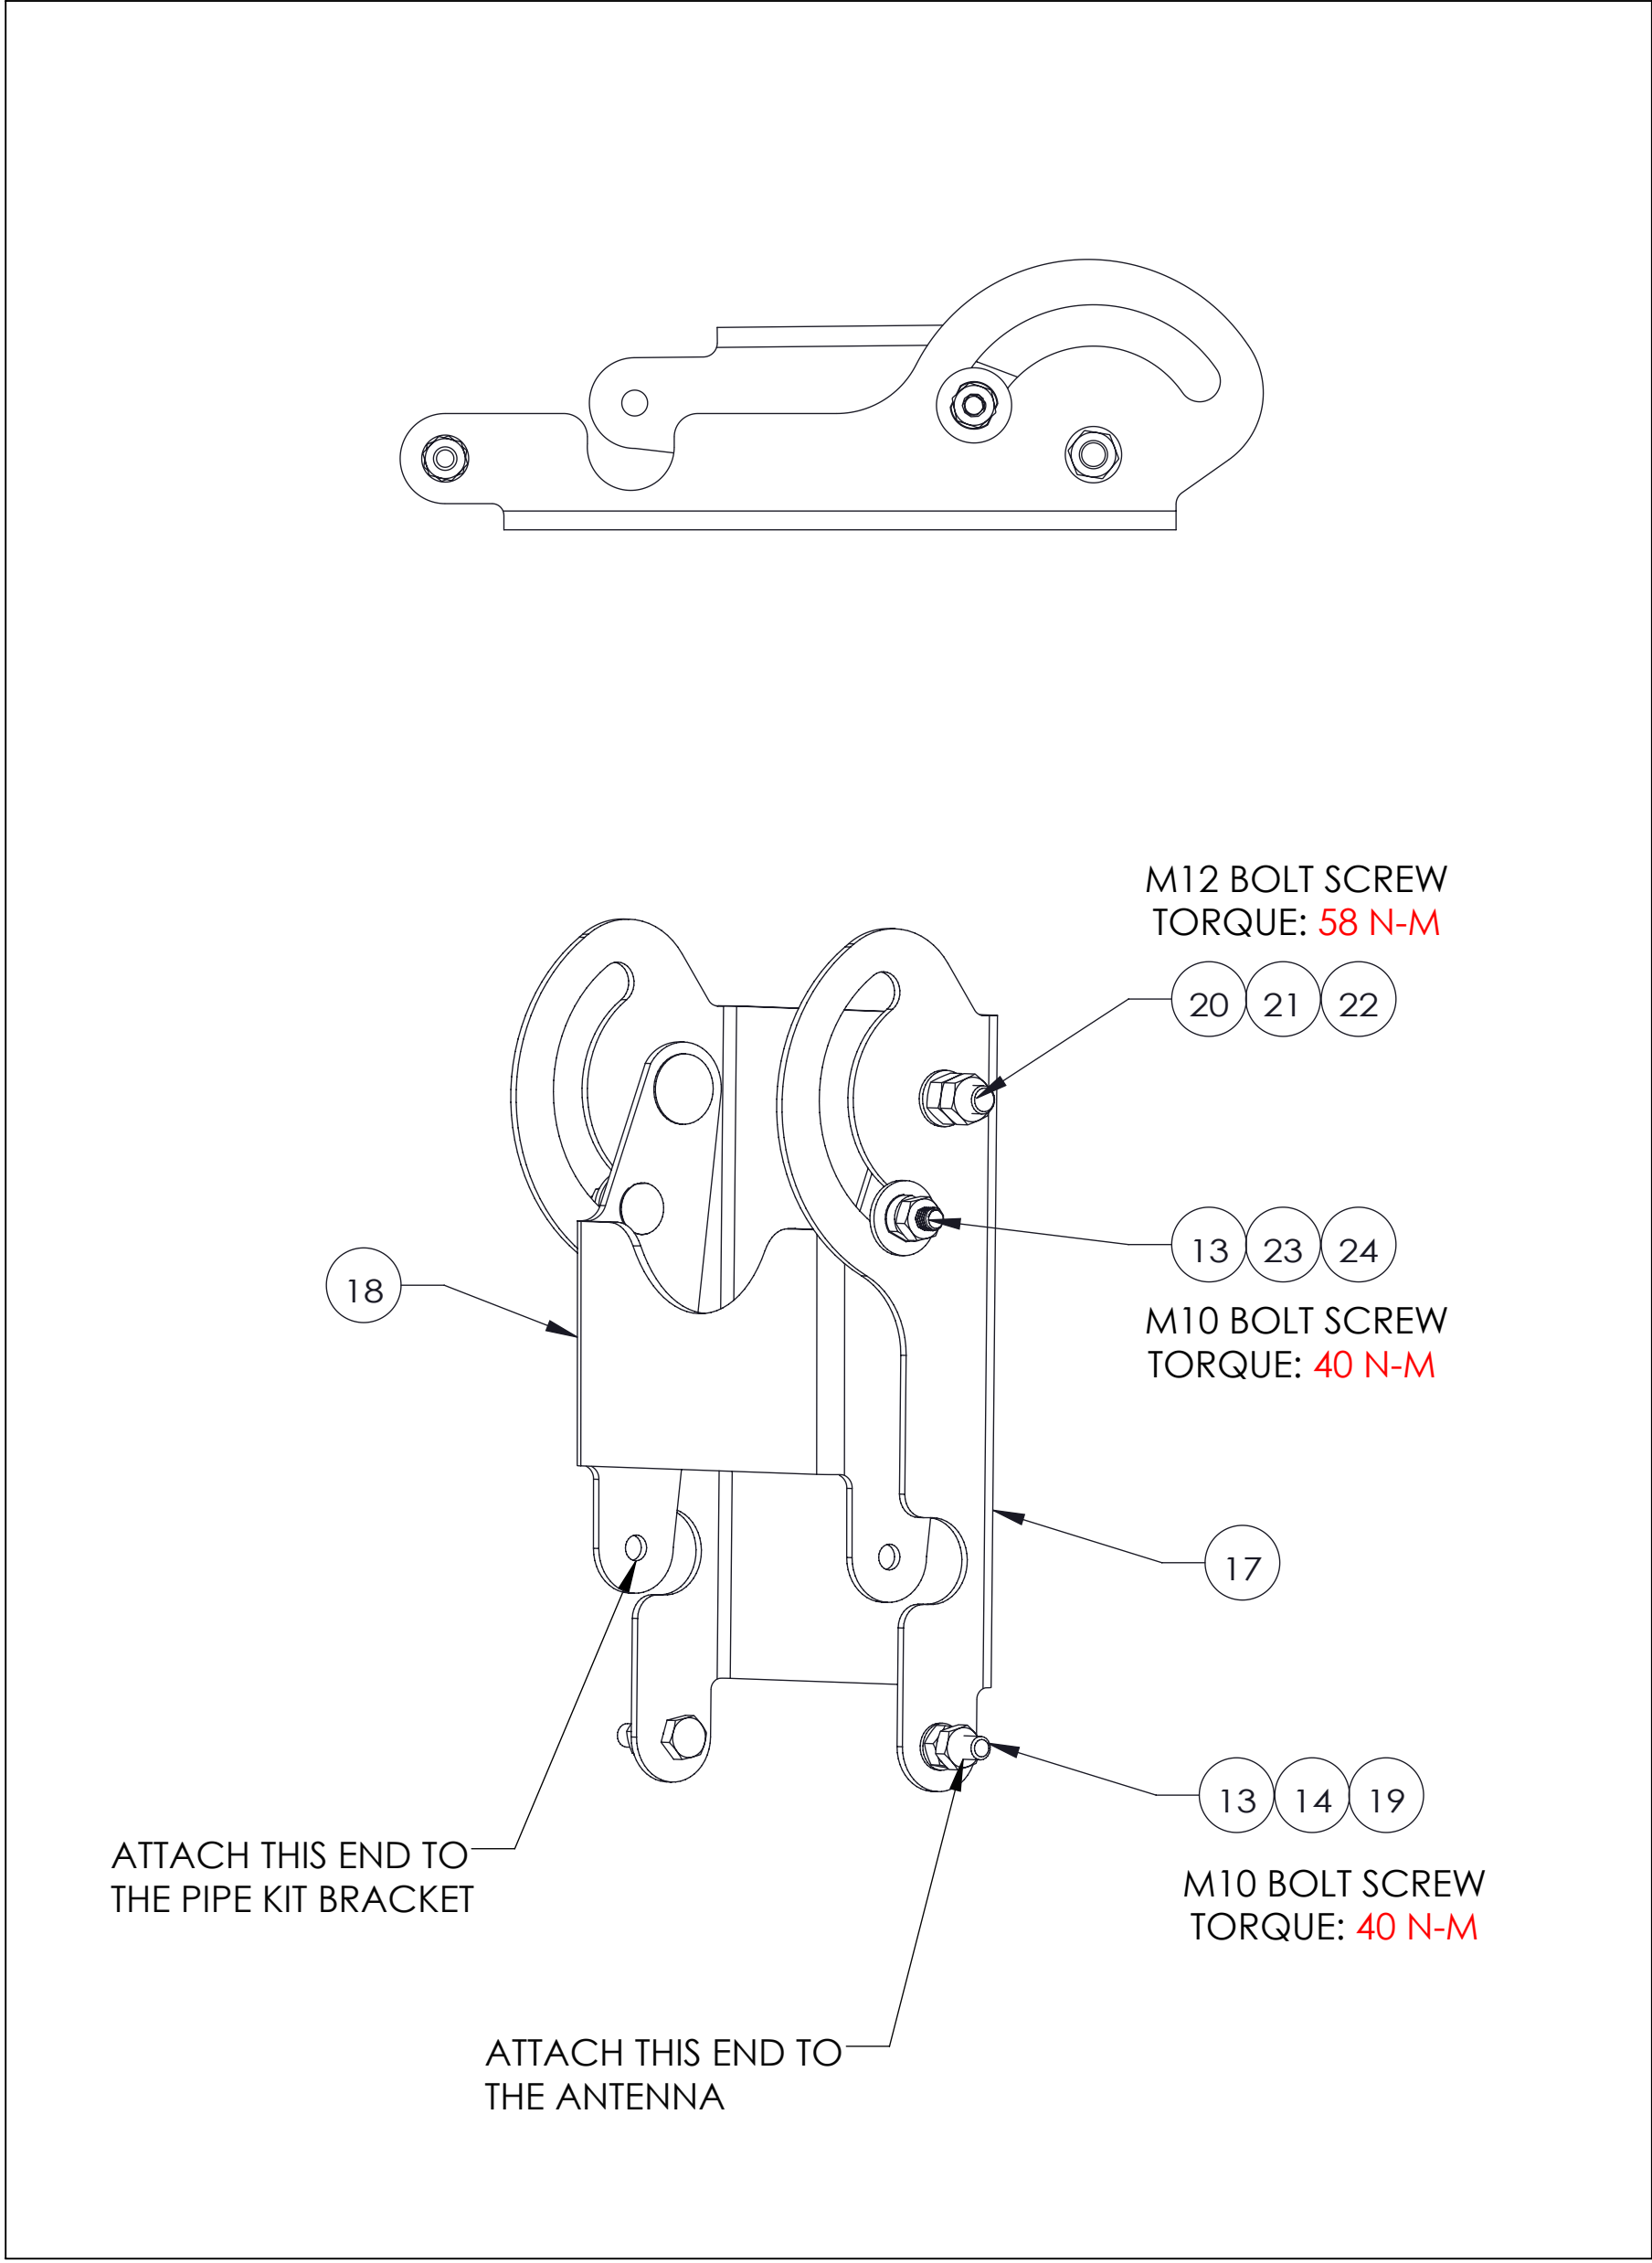

Figure 6. Downtilt Assembly.
- 1. Assemble the bracket links and hardware as shown in Figure 6.